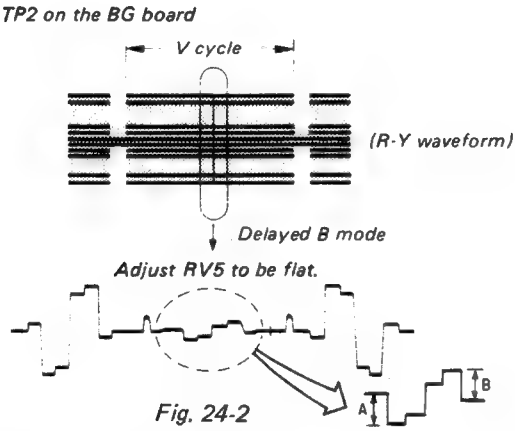

Fig. 24-2
4. By observing the waveform shown in Fig. 24-2, adjust RV9 on the BD board so that it becomes A=B.
5. Adjust RV5 on the BD board so that the waveform shown in Fig. 24-2 becomes flat.